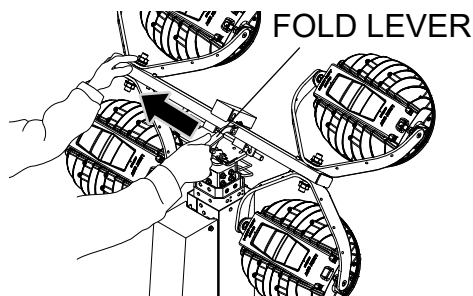

Figure 9. Release Fold Lever
1. Supporting the light tower with one hand, pull up the fold lever (Figure 9). The lever is pushed up by a spring force.